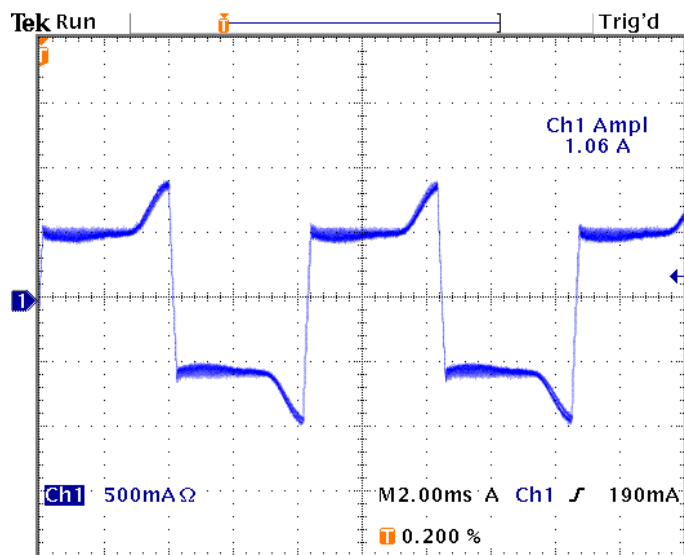
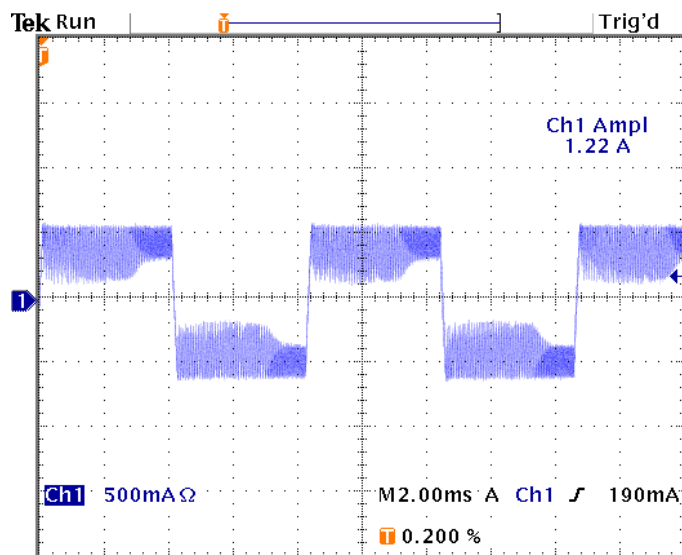
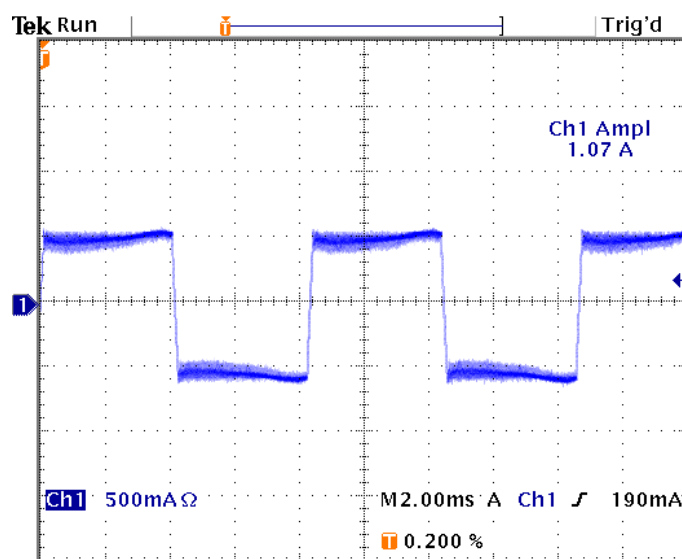

Figure 5: slow decay (V\_MTH = 0.0V), Tj = 45°C
Figure 6: fast decay (V\_MTH = 2.5V), Tj = 61°C
Figure 8: optimum mixed decay (V\_MTH = 0.4V), Tj = 53°C
It can be seen that in slow decay mode (MTH voltage = 0V) the current peaks above the set limit (Figure 5). This may lead to undesired behavior or in the worst case reliability problems or even motor destruction. The peaking can be compensated by changing the decay mode to “fast” (Figure 6) but this causes a lot of noise in the current waveform because the chopping frequency filtering is lower. Also the junction temperature rises significantly. An optimum value is found in mixed decay mode (here with MTH voltage = 0.4V) where the current peaking is gone and temperature rise is moderate (Figure 8).
**Figure 5 to Figure 8: Full step mode, continuous spin with 144 rpm, 0.5A / phase, 24V supply**
It can be seen that for high motor current the slow decay setting yields an optimum current waveform without peaking whereas for low current settings the optimum decay mode was mixed (MTH = 0.4V, see Figure 8).